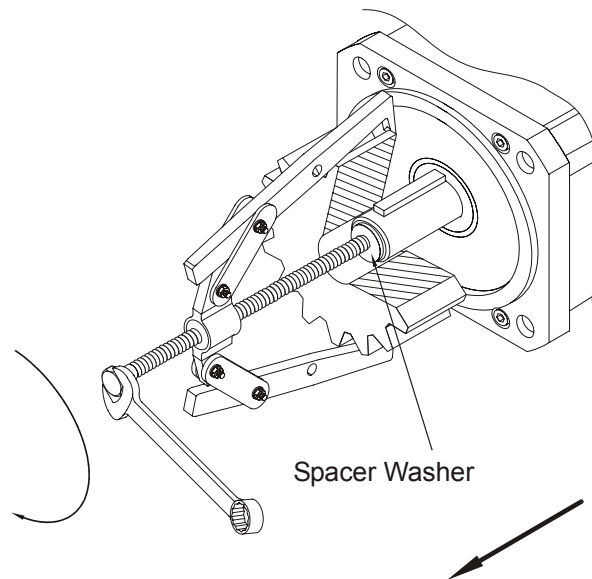

Fig. 3: Disassembling a power output element
- In order to disassemble gears, pulleys etc. please use a pulling device according to Fig. 3.